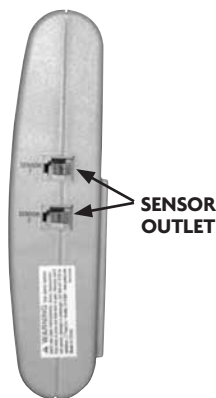

Fig. 24
- Connect sensor cord plugs to the two jacks on side of alarm (fig. 24).